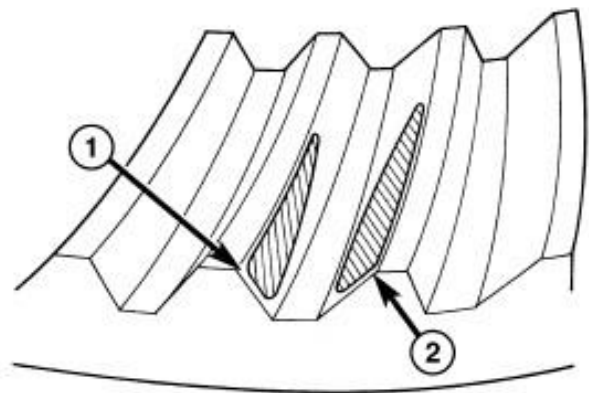

Figure 40
- The ring gear is too far away from the pinion gear, drive side heel (1) and coast side heel (2). Decrease the backlash, by moving the ring closer to the pinion gear using the adjusters (Figure 40).